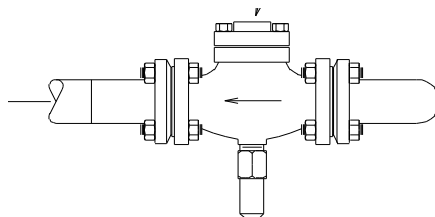

Figure 9-9
Thaw Chamber Check Valve (101) Fig. 9-9. This valve is closed during the freeze cycle to keep the thaw chamber from filling with liquid ammonia. To manually open simply turn the manually opening stem inward.